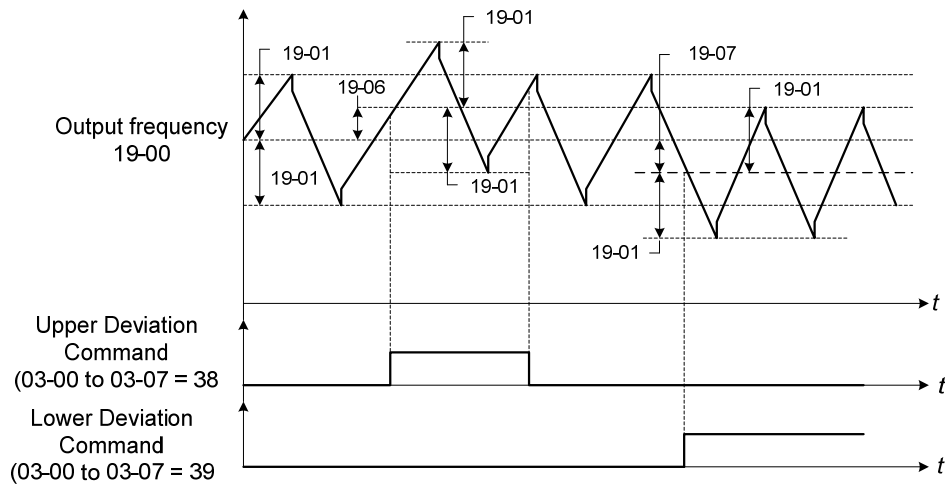

Figure 4.3.106 Upper/Lower offset operation
- . In the wobble operation, the center frequency can be controlled by one of multi-function digital inputs. However, the command of wobble upper offset (03-00 to 07 = 38) and the command of wobble lower offset (03-00 to 07 = 39) can not be input at the same time, otherwise the inverter will maintain the original center frequency (19 - 00). Refer to Figure 4.3.106.